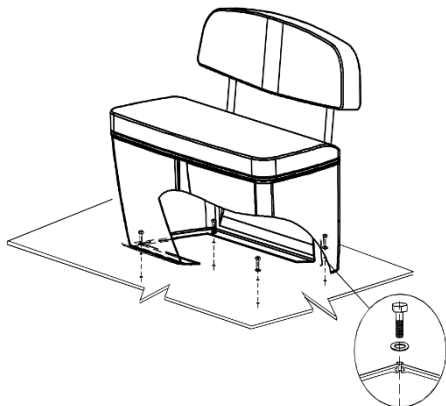

Fig. 8. Installation of container.
- Fix container to the deck by means of bolts M8*25 and toothed lock washer (see fig. 8).